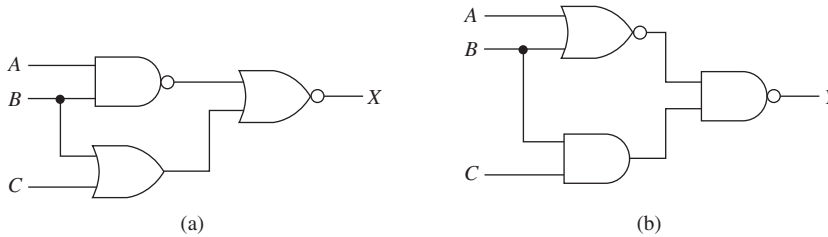

Figure P18
18. Write the Boolean equation for the circuits of Figure P18. Use De Morgan's theorem and Boolean algebra rules to simplify the equation. Draw the simplified circuit.